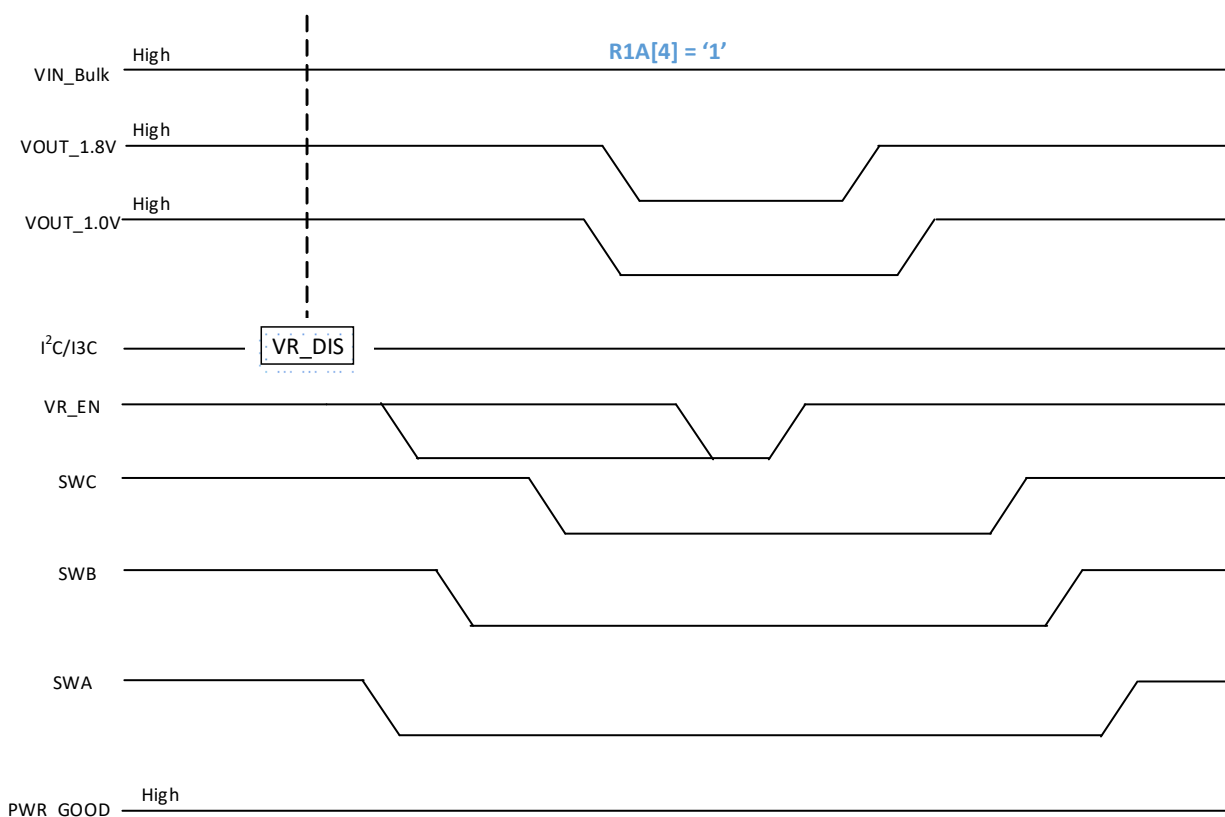

Figure 24 — Power Down with VR\_DIS; R1A[4]=1; Program. Mode; PWR\_GOOD Signal
- b. If VR Disable command on a I2C/I3C Basic Bus (i.e., [Table 154, Register 0x32 \[7\] = '0'](#)), PMIC keeps the PWR\_GOOD signal floating because this is an intentional command from the host and not a fault condition. The PMIC exits from P1 state with only VR\_EN pin transition to High. The host can re-enable the PMIC's output regulators by VR\_EN pin transition to High and PMIC executes power on sequence config 0 to power on sequence config 3 registers. The PMIC continues to float PWR\_GOOD signal until tPMIC\_PWR\_GOOD\_OUT timing parameter is satisfied and at that point PMIC assumes normal control of PWR\_GOOD signal. See Figure 24. The PMIC does not require power cycle.
2. Configuring one or more bits in [Table 151, Register 0x2F \[6:3\]](#) to '0' in any specific sequence that is desired by the host. The PMIC does not execute power off sequence config0 (Table 200, Register 0x58) to power off sequence config3 (Table 203, Register 0x5B) on its own. The PMIC keeps the PWR\_GOOD signal floating because this is intentional command from the host and not a fault condition. Note that host can re-enable any of disabled output regulators by configuring one or more bits in [Table 151, Register 0x2F \[6:3\]](#) to '1' in any specific sequence that is desired by the host. The PMIC keeps the PWR\_GOOD signal floating. The PWR\_GOOD signal behavior is same as in Figure 24.